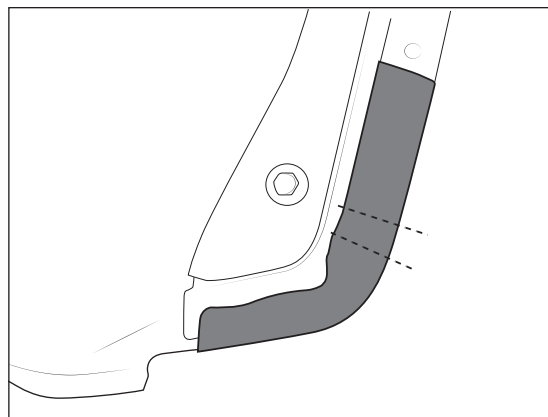

Figure 11
18. Once the material has been worked to the edges, wrap the excess material around the back of the sheet metal as shown below (fig. 11).